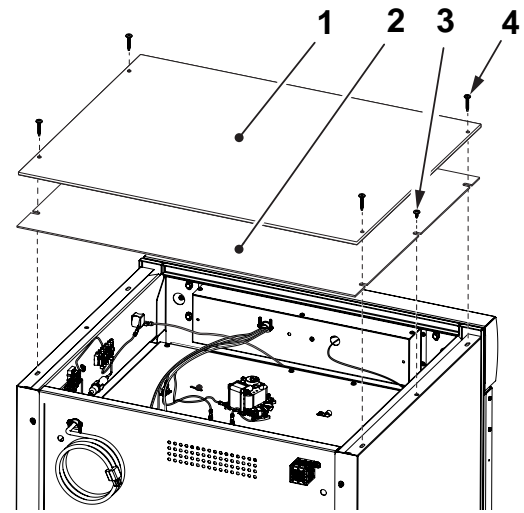
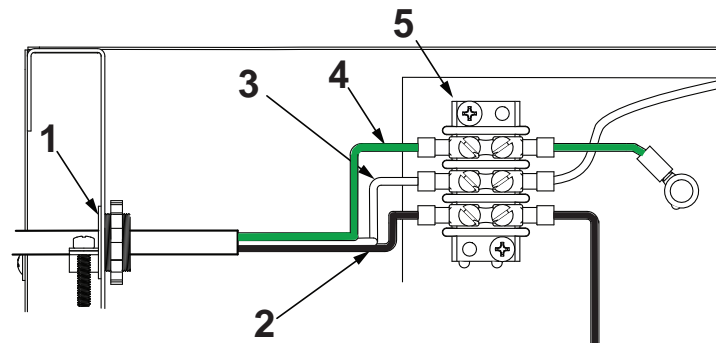

Fig. 12: Remove Top Covers
Fig. 13: Unwiring Terminal Block
1. Remove four 8 X 1-5/8" self tapping screws and lift off the Top Outer Panel (Fig. 12).
2. Remove two 8 X 1/2" self tapping screws and lift off the Top Inner Panel (Fig. 12).
3. Loosen the 3/8" straight-through connector (Fig. 12, Item 1) and disconnect wiring from terminal board (Fig. 12, Item 5 and Fig. 13, Items 2, 3, 4).
4. Remove existing power cable (Fig. 12, Items 2, 3, 4) from terminal block and pull out of Warming Cabinet through 3/8" connector (Fig. 13, Item 1).
5. Feed facility wiring cable back through the 3/8" connector (Fig. 13, Item 1) in the back of the cabinet and wire onto terminal board as shown in Figure 13. Tighten the 3/8" to securely hold the facility wiring in place.
9. Reinstall the Inside Top Panel using two 8 X 1/2" self-tapping screws (Fig. 12).
10. Reinstall the Outside Top Panel using four 8 X 1-5/8" self-tapping screws (Fig. 12).